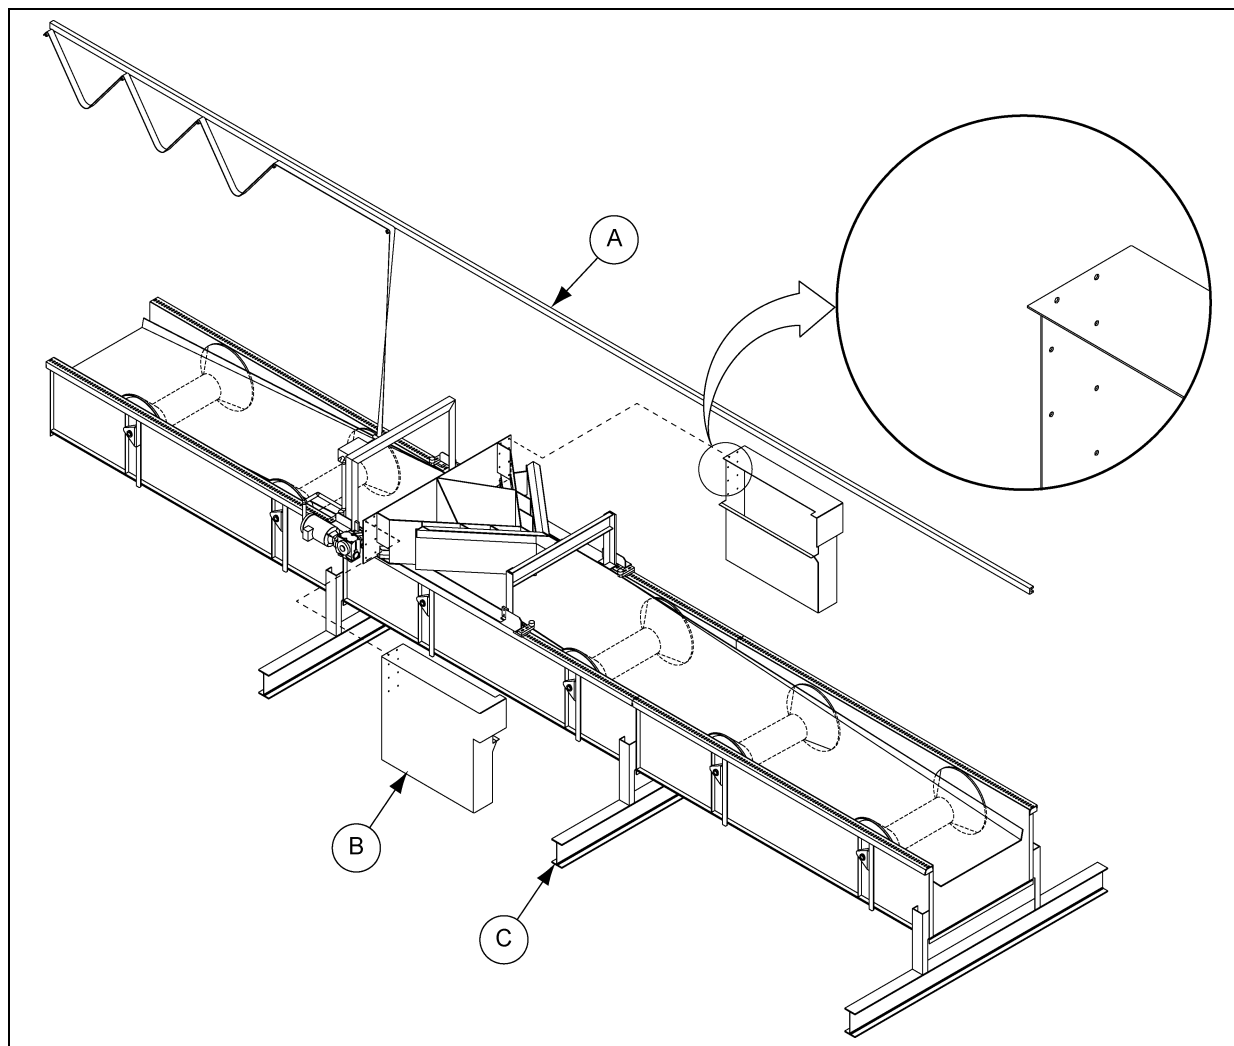

Figure 4AA *Plow Section Assembly*
Movable discharge plows are an additional feature that allows for the discharge position to be at almost any point along the conveyor. The plow sits on top of interconnected sections that have rails running along the top of the sections that help support and guide the plow as it traverses the conveyor. (See Figure 4AA.) Two (2) P/A sections are sent that will make the transition from a standard conveyor section to a plow section all-in-one. Installation procedures will again follow the conveyor assembly instructions on Page 25.